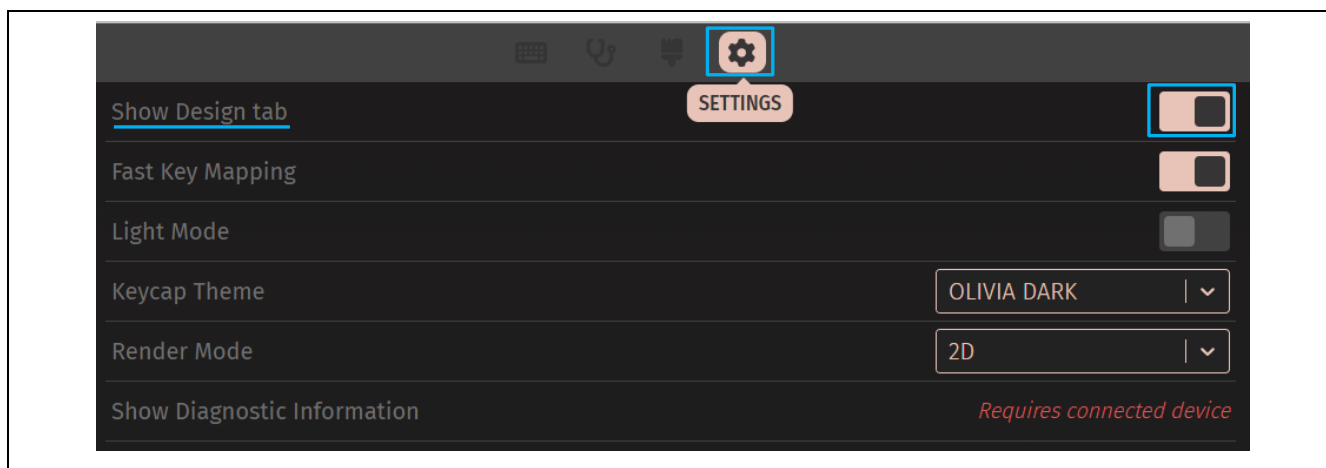

Figure 5-35 VIA Tool SETTINGS Page
2. In **SETTINGS** page as shown in Figure 5-35, enable **Show Design tab** function. An additional **DESIGN** page will be shown on the top menu.